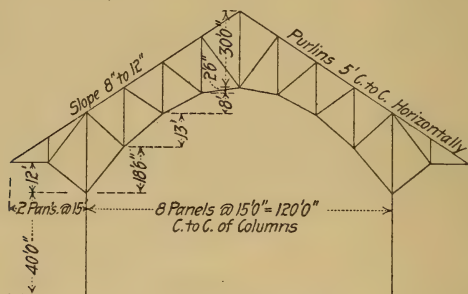

FIG. 5.
1. A train-shed roof is supported by trusses spaced 20 ft. on centers on an outline shown on accompanying sheet. The total load on the roof is 60 lb. per sq. ft. Find the stresses in the truss graphically and proportion the members. What unit stresses would you allow? Make a sketch showing arrangement and size of lateral bracing you would use for first four panels from outer end of shed. Show stresses on left half and sizes on right half of diagram (Fig. 5).